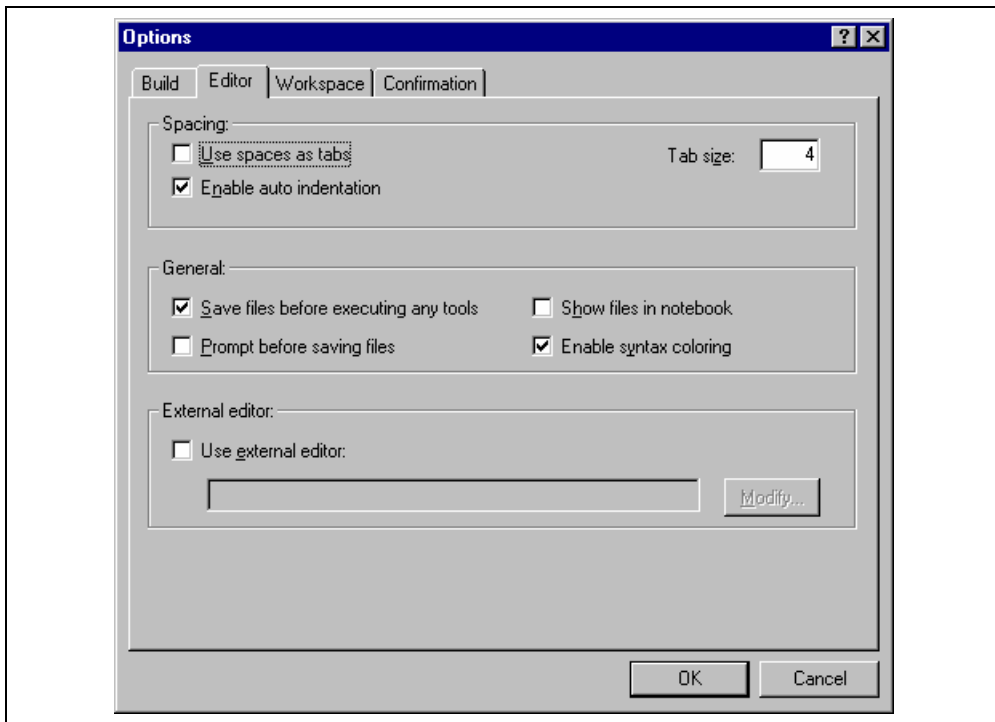

Figure 4.7: Options Dialog Editor Tab
1. Select [Tools->Options...]. The “Options” dialog will be displayed. Select the “Editor” tab (figure 4.7).
1. Select **[Tools->Options...]**. The "Options" dialog will be displayed. Select the "Editor" tab (figure 4.7).
1. Select [**T**ools->**O**ptions...]. The “Options” dialog will be displayed. Select the “Editor” tab (figure 4.7).